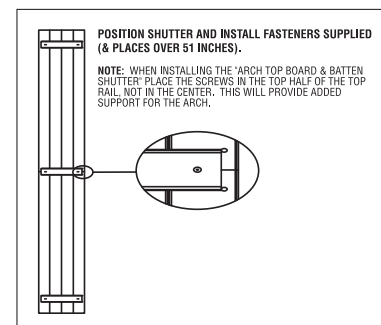

Fig. 4
Position shutter in desired location and drill a 7/32" diameter hole through shutter only and spot mark this location on the wall. Remove the shutter and drill a 3/32" diameter pilot hole on each location and then fasten the shutter with supplied metal screws as shown in Fig. 4. (6) Screws are required for shutters over 51" in length. (4) Screws for shutters up to 51"